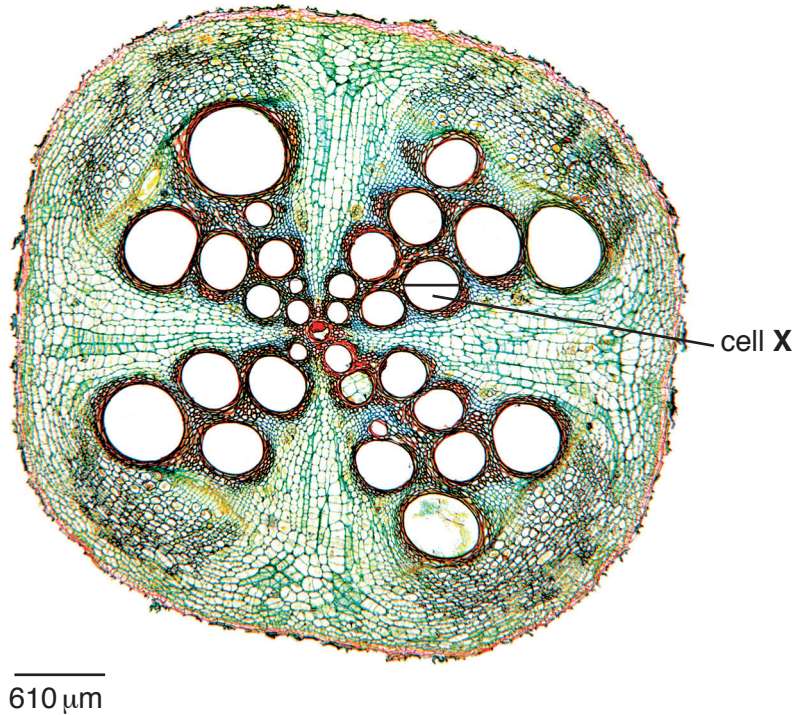

Fig. 2.1
(b) Fig. 2.1 is a photomicrograph of a stained transverse section through a root from a different type of plant.
(i) In Fig. 2.1 a line is drawn across the diameter of a cell, **X**.
- (ii) Prepare the space below so that it is suitable for you to record the observable differences between the stem on **N1** and the root in Fig. 2.1.